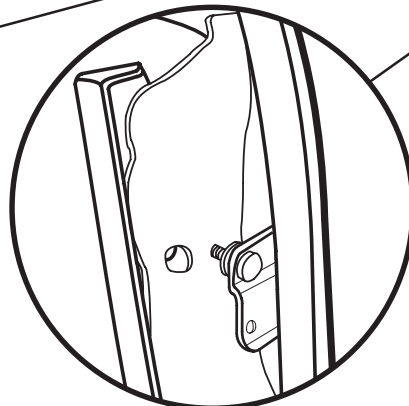

Fig. 2B
5. While holding stud in place, snap plastic retention clip over weld stud from front to secure in place, each side. (Fig. 2B)